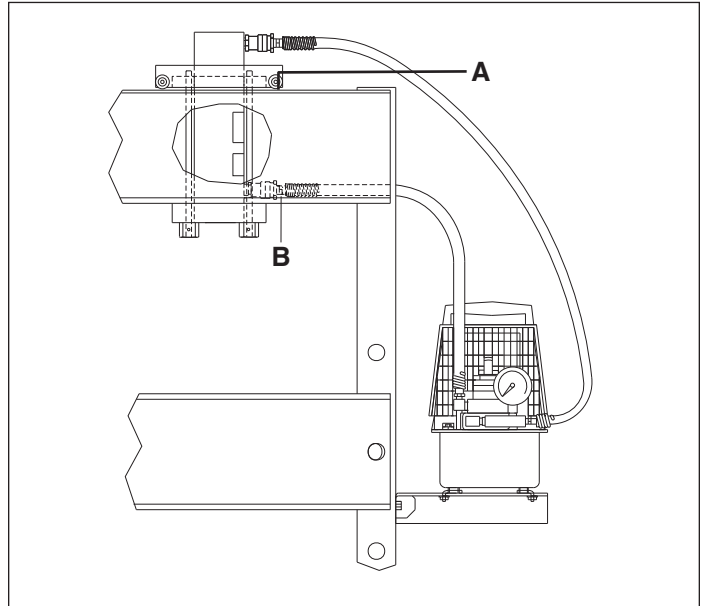

Figure 5. Hydraulic Connections for Double-Acting Cylinders
4.2 Double-acting Cylinders (See Figure 5)